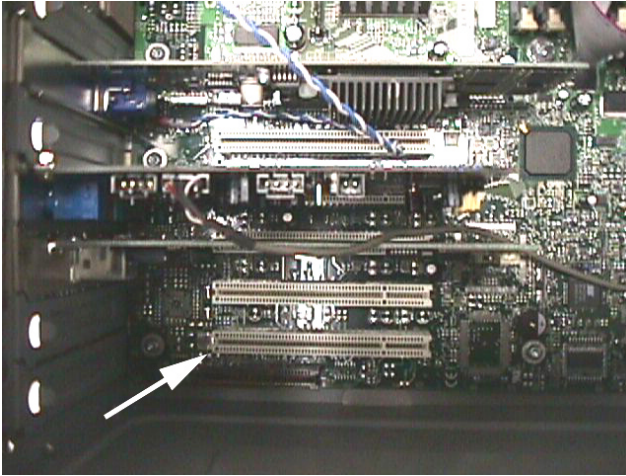

Figure 6
Step 6. Locate an open PCI expansion slot as shown in Figure 6.